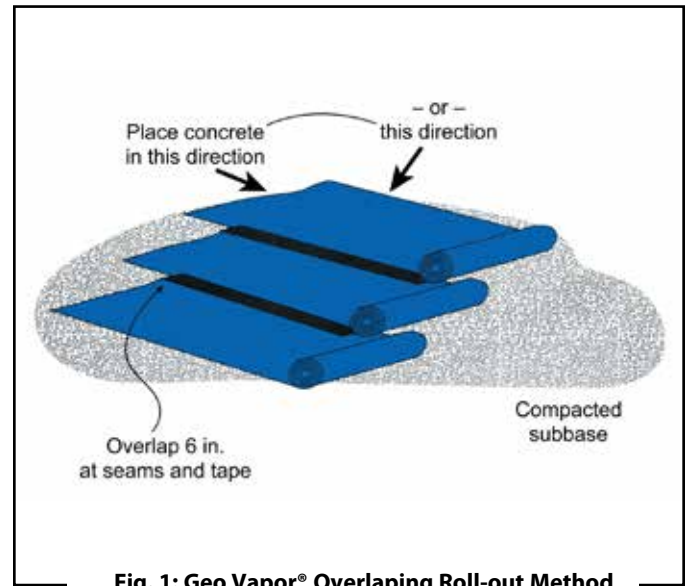

Fig. 1: Geo Vapor® Overlapping Roll-out Method
- 1.2. Unroll **Geo Vapor®** running the longest dimension parallel with the direction of the pour and pull open all folds to full width. (Fig. 1)